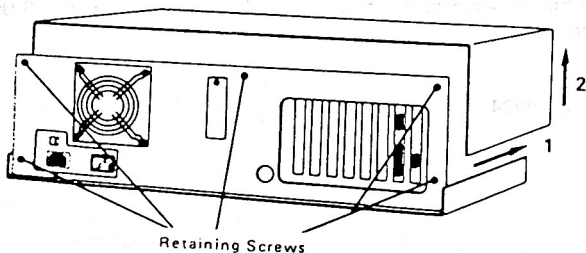

Figure 1
2. Pull off the back cover, remove the five cabinet retaining screws as shown in Figure 1, slide the cabinet top forward slightly and lift it off.